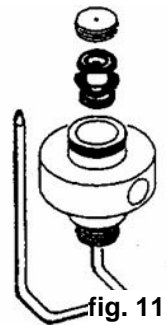

fig. 11
- Push Locking Device from the bottom into the housing and remove the Non Return Valve and Air Nozzle Disc. (fig. 11).